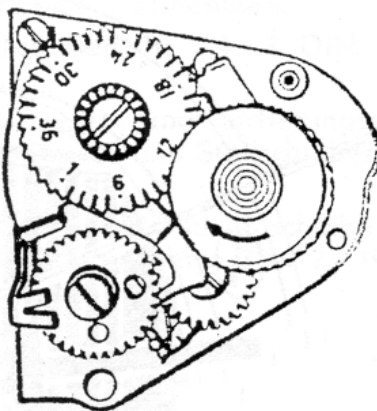

Fig. 2
b) Bend apart the adjustable slot on the mirror cocking lever 350.04 U 2 (EXA), 350.04 U 7 (EXA I/63), see Fig. 2, until cocking stroke suffices and shutter flap goes past the retaining spring 300.23 U 5 by about 0.5mm.